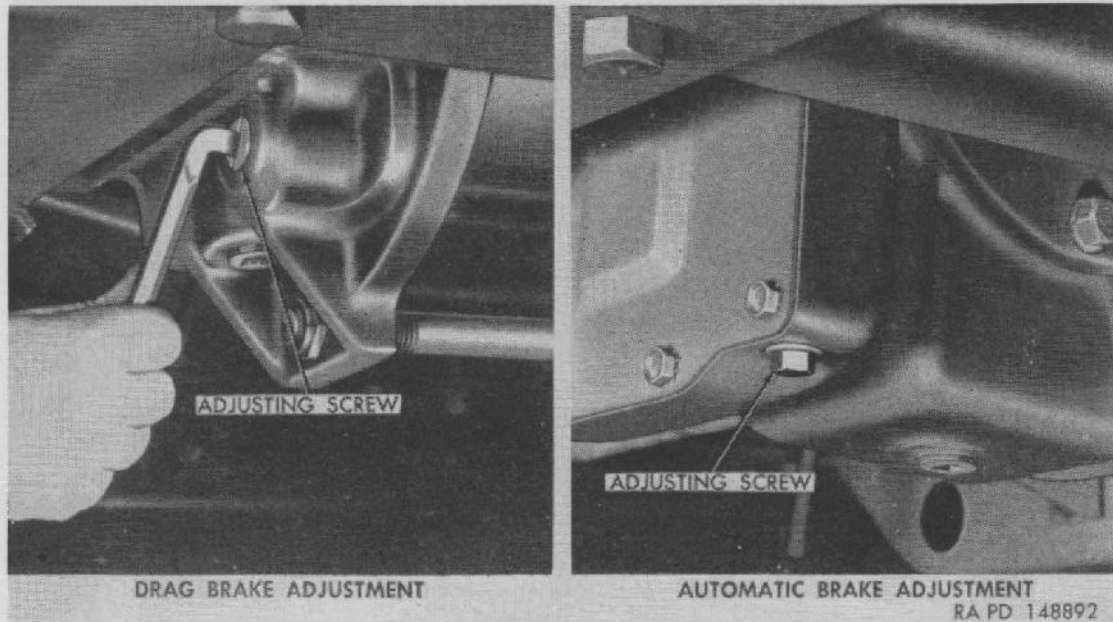

Figure 188. Winch adjustments.
b. DRAG BRAKE ADJUSTMENT (fig. 188). Turn slotted adjusting screw with offset screwdriver. Screw is located at right side of winch. Turn screw clockwise about one-half turn to tighten drag brake. Test adjustment (*a* (2) above).
c. AUTOMATIC BRAKE ADJUSTMENT (fig. 188). Adjusting bolt head is located on under side of worm housing at left side. Increase tension of brake by turning adjusting bolt clockwise only one-half turn; test adjustment (*a* (3) above).